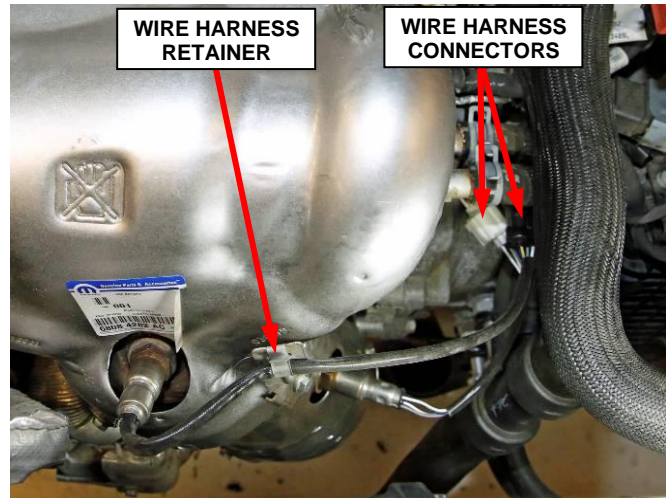

Figure 26 – Oxygen Sensors Electrical (UF) Chrysler 200, (BU) Jeep Renegade, (KL) Jeep Cherokee, (FB) Fiat 500X, (VM) Ram Promaster City
- 40. Connect the upstream oxygen sensor and downstream oxygen sensor wire harness connectors (Figure 26 or 27).
- 41. Install the upstream oxygen sensor wire harness to retainer(s) (Figure 26 or 27).